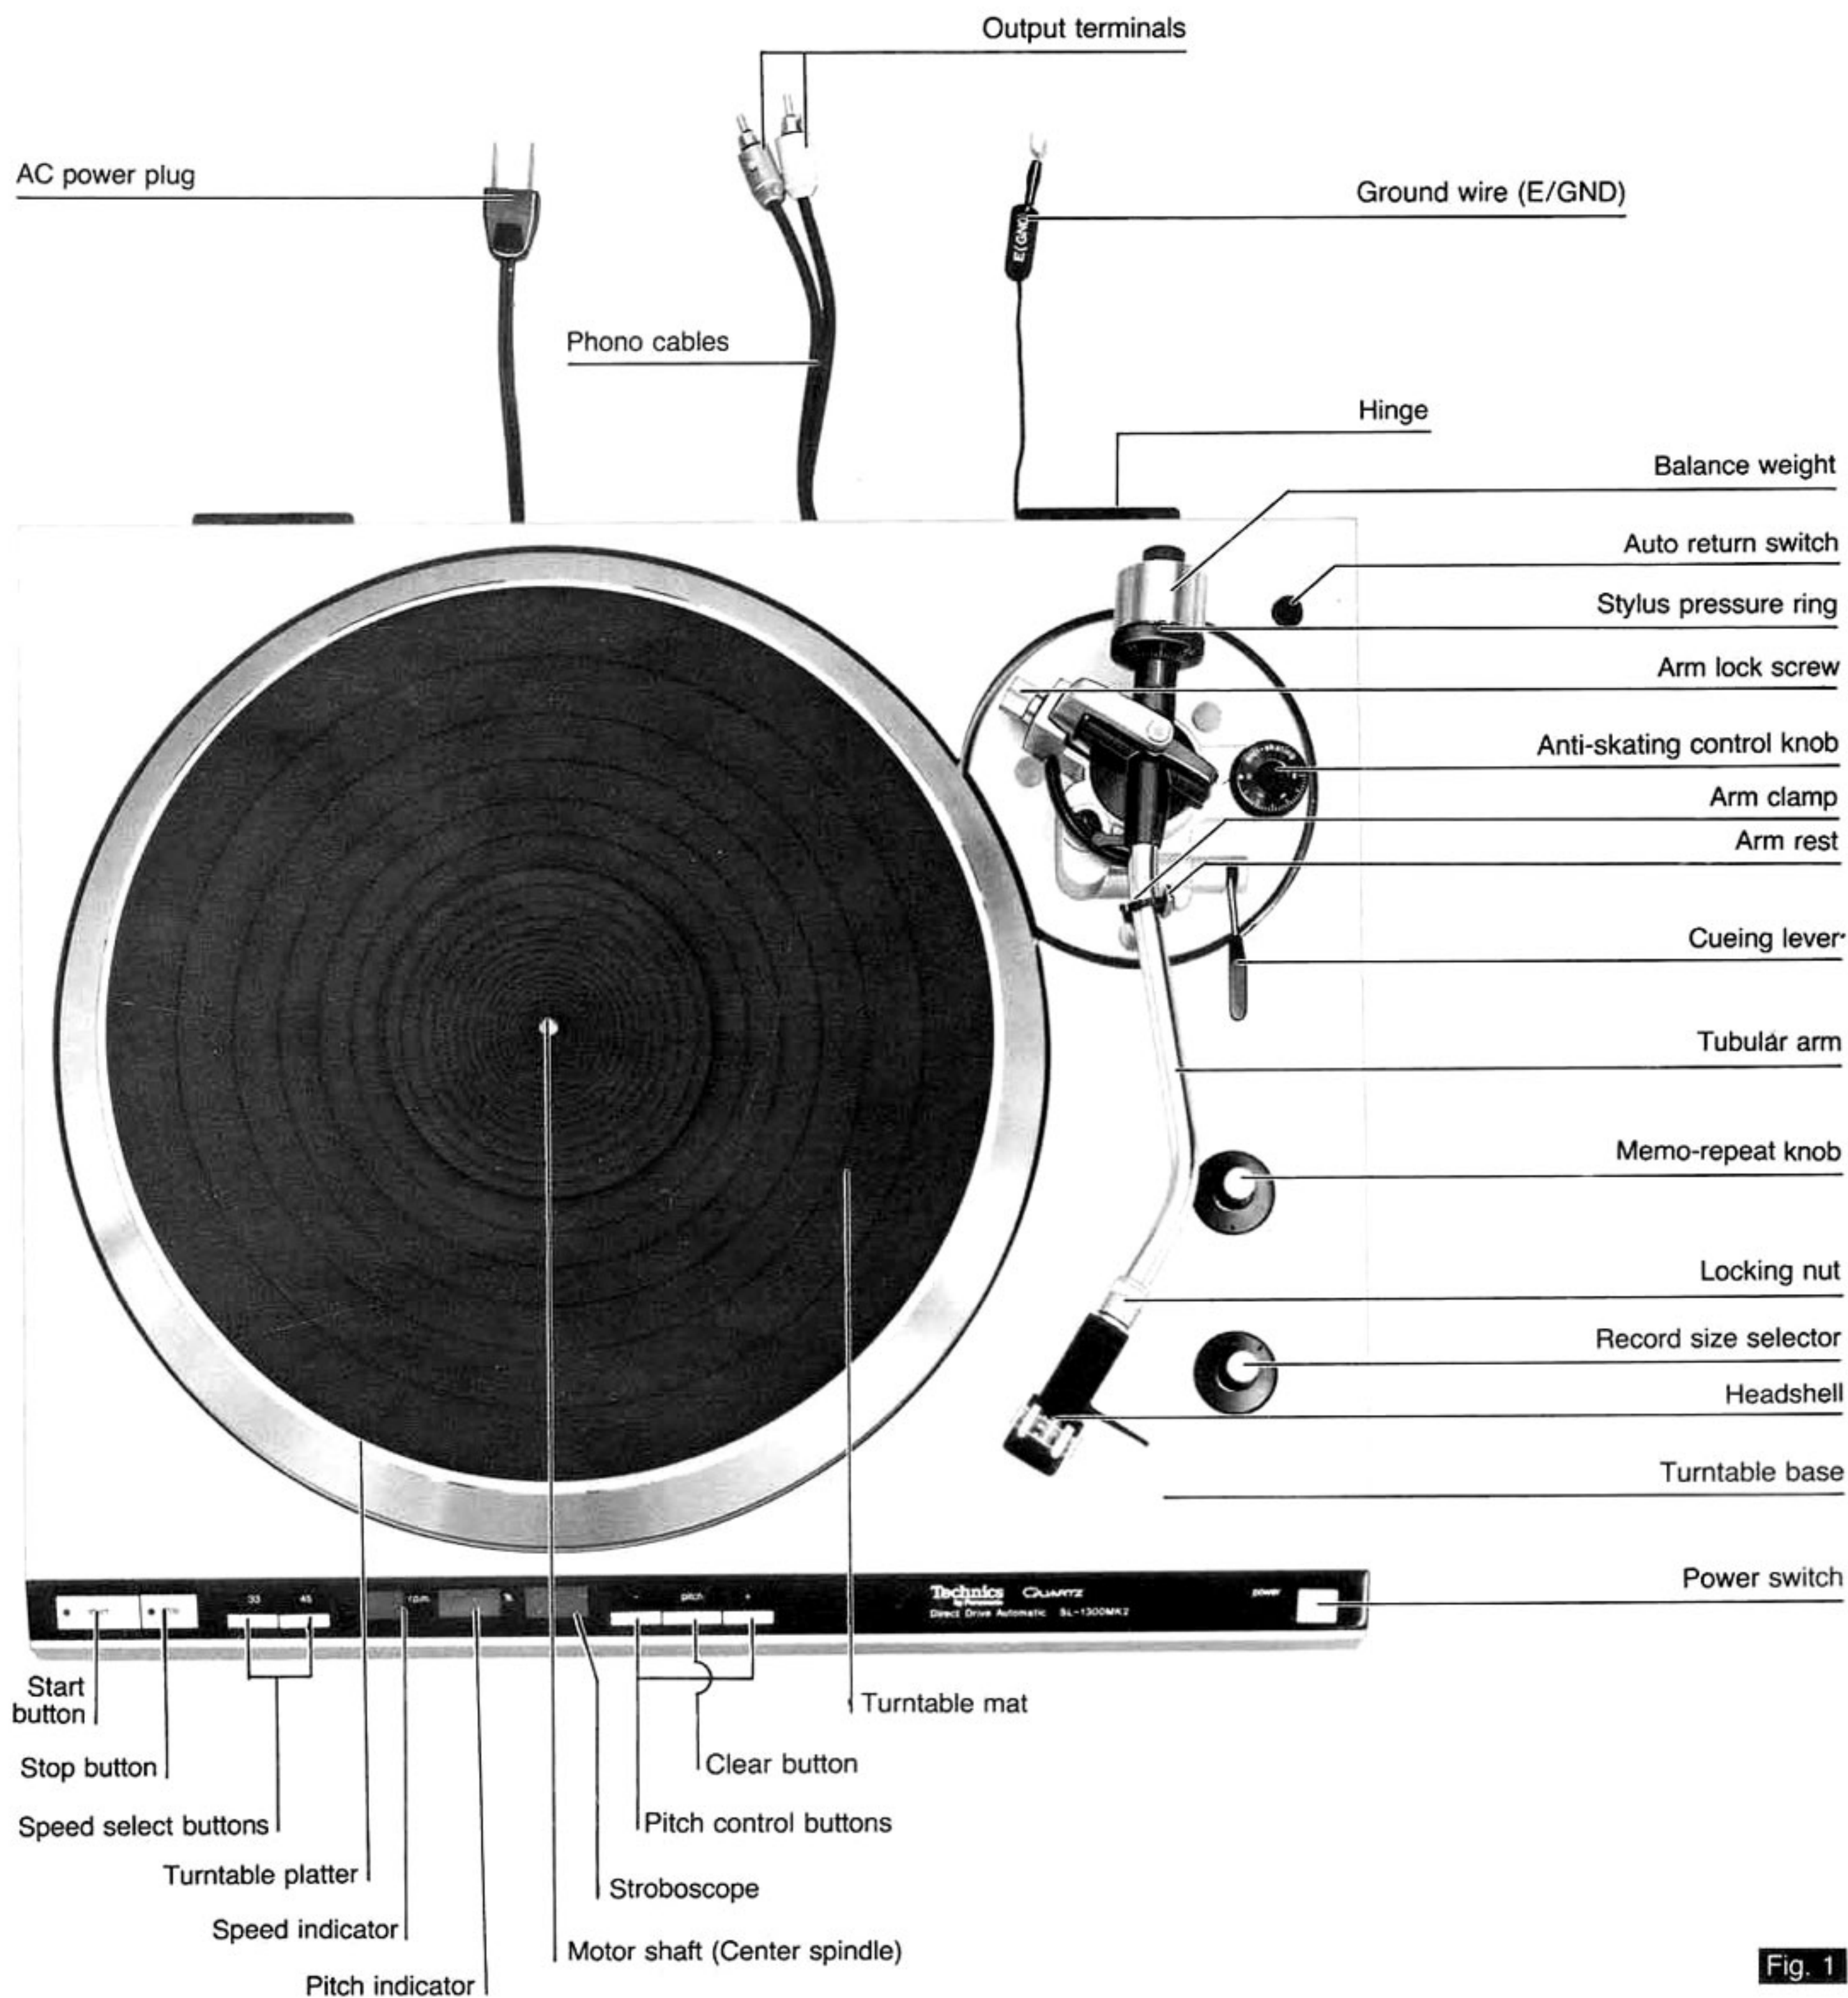

Fig. 1
- Make sure that the "memo-repeat" knob is in the "0" position. (See Fig. 1).